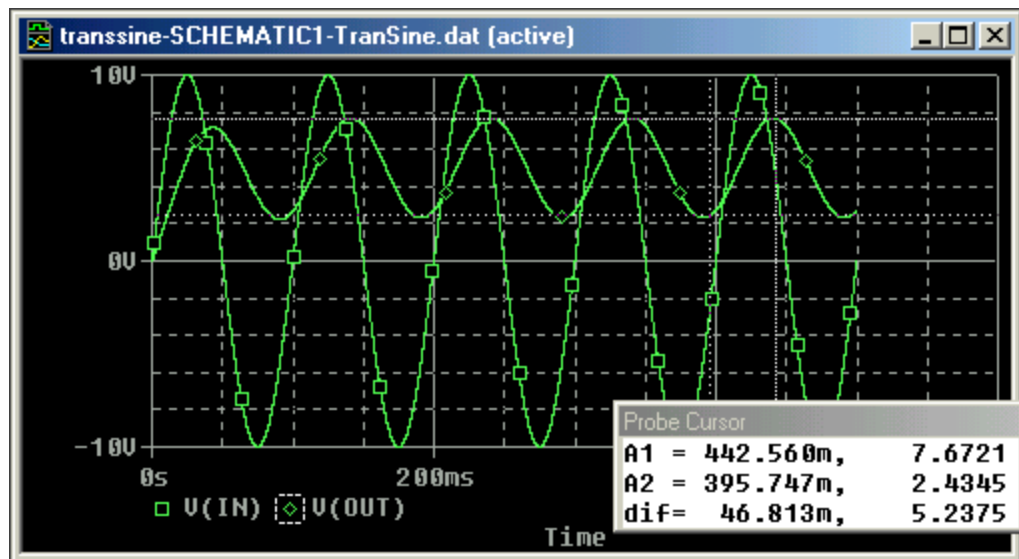

Figure 16. Transient simulation with a sinusoidal input.
9. We used the cursors in Figure 18 to find the 3dB point. The value is 6.49 Hz corresponding to a time constant of 25 ms ($R1||R2.C$). At 10 Hz the attenuation of V_{out} is 11.4db or a factor of 3.72. This corresponds to the value of the amplitude of the output voltage obtained during the transient analysis of Figure 16 above.